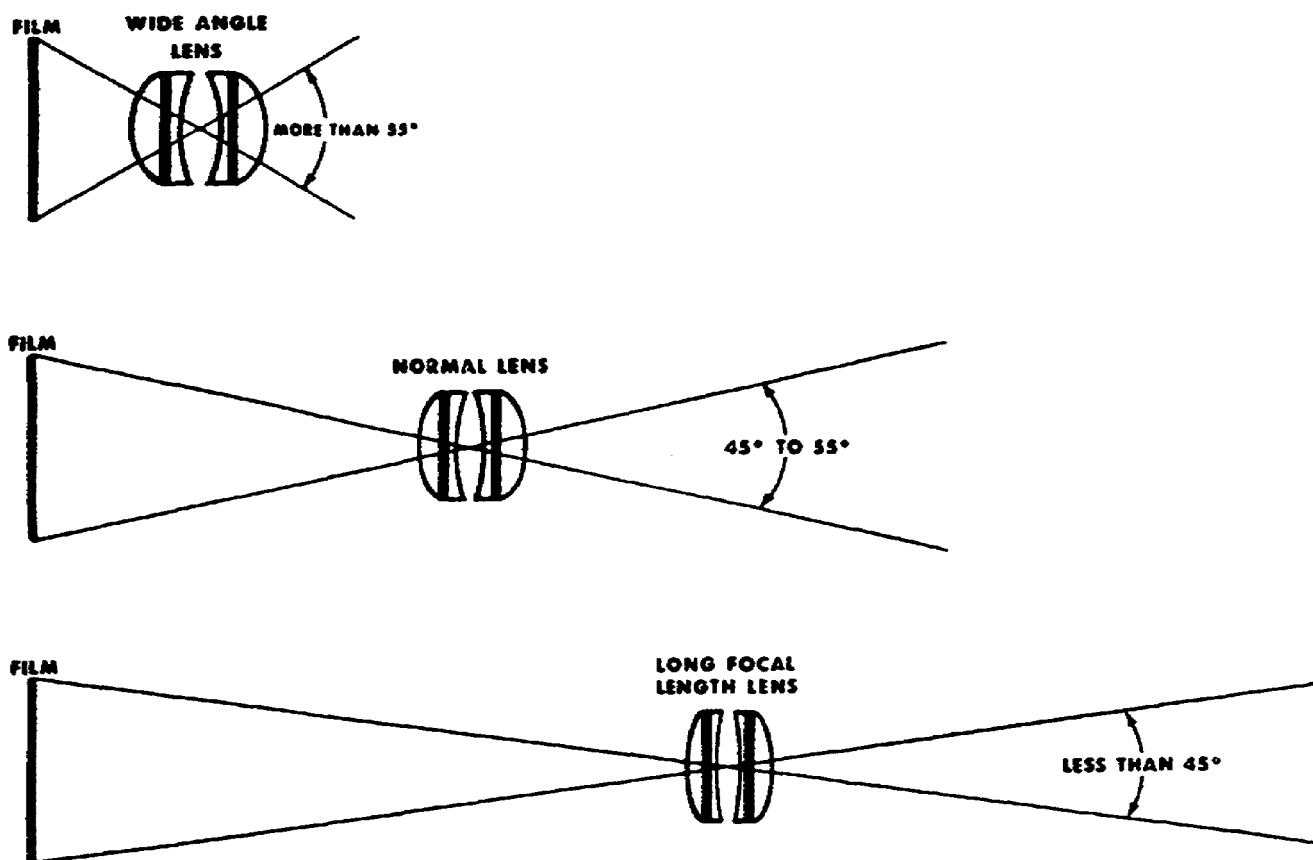

Figure 2-17. Angle of view for various focal length lenses.
(2) If the focal length is equal to the diagonal of the negative, the angle of view decreases as the subject distance is shortened.
(3) Since manufacturers usually produce lenses for specific negative sizes, they also prepare tables giving angles of view of commonly used lenses. Some manufacturers also list angle of view for vertical and horizontal measurements of film. For example, the readings for a 5-inch focal length lens are diagonal  $65^\circ$ , horizontal  $53^\circ$ , and vertical  $44^\circ$ .
(4) Figure 2-17 illustrates the angle of view for wide-angle, normal, and long focal length lenses.